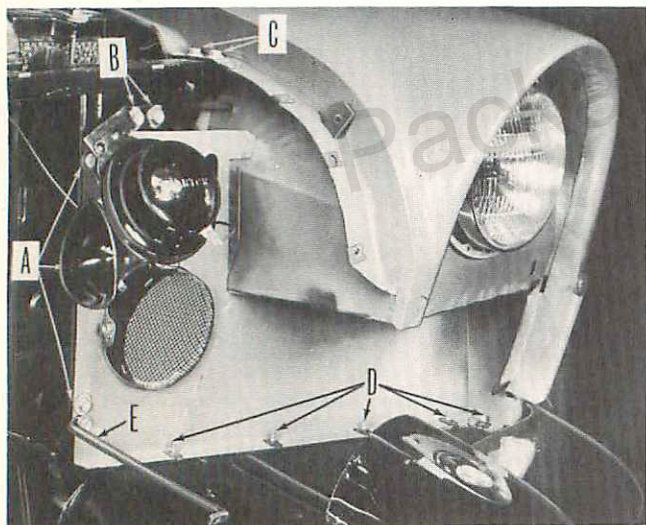

Figure 5—Left Fender Removal
Remove the wiring harness from the fender attaching clips and disconnect the harness cables from the junction block. Disconnect the horn wire from the horn. Remove the horn bracket retaining screws (B, Fig. 5) and re-
move the horn. Disconnect the headlight cables from the junction block. Remove the headlight body retaining screws. Lift the assembly out of the fender, thread the cables out of the splasher, and remove the headlight assembly. Remove the fender splasher-to-frame side rail screws. Remove the radiator side splasher-to-radiator core cradle screws (A, Fig. 5), grille brace rod screw (E), and radiator side splasher-to-lower splasher screws (D). Then remove the fender-to-radiator core cradle bracket screws (C) and insert a suitable drift to hold the fender in position. Then remove the screw at the bottom rear where the fender is attached to the bottom of